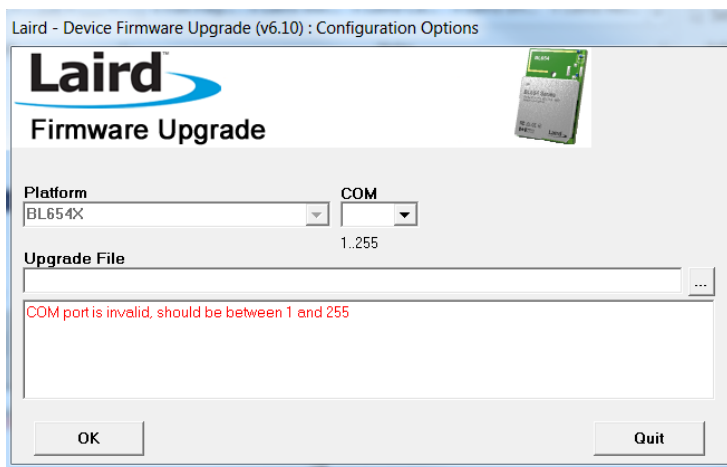

Figure 3: BL654xUartFwUpgrade launch screen
4. Start *BL654xUartFwUpgrade.exe* to display the launch window (Figure 3).